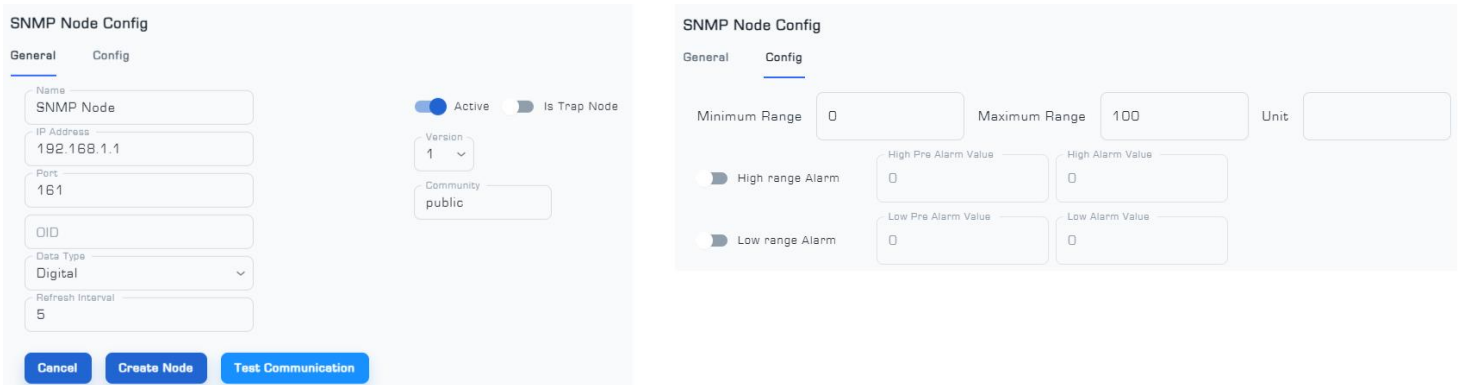

Figure 33: Settings related to adding a new Node in the virtual card
(2) Add general SNMP settings on the 'General' page and other configuration settings for the Node on the 'Config' page (Figure 33).
(3) To save the settings, click on the 'Create Node' option on the 'General' page (Figure 33).
(4) You can apply the remaining settings on any other SNMP management software to read the information of that Node.